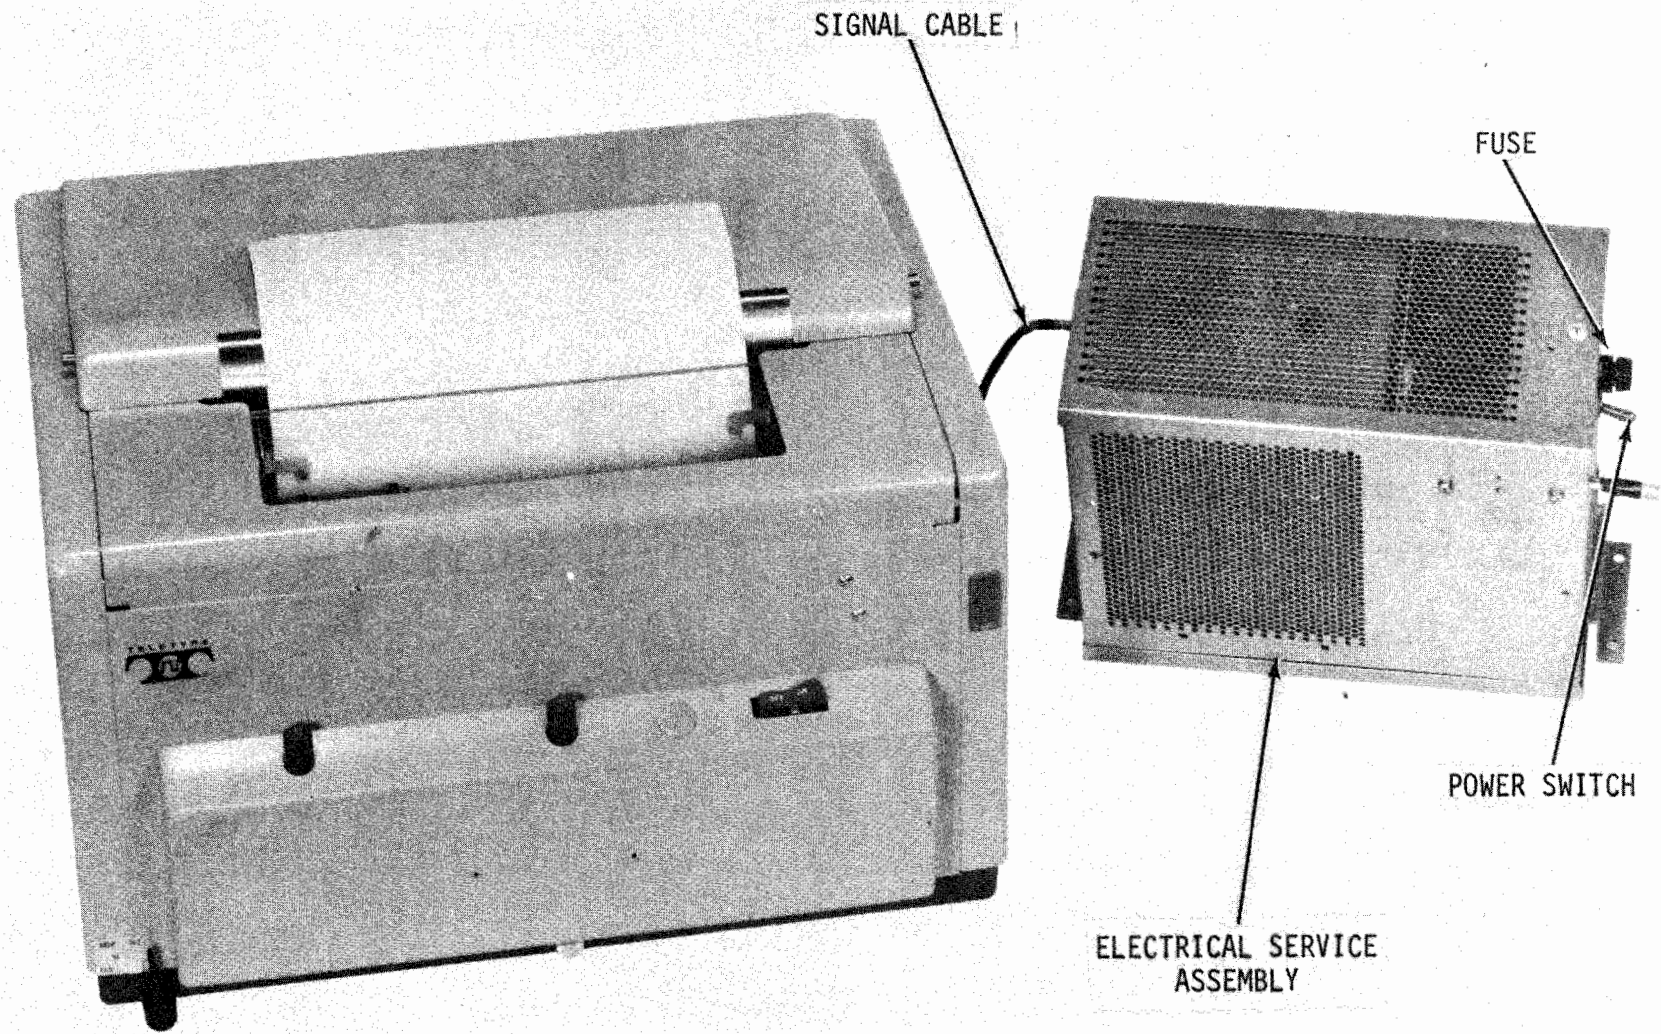

Figure 8-6. Typical ESA Installation
(1) Mount the electrical service assemblies (ESA) in space available anywhere near the set within the limit of the signal cables. Mounting brackets for the ESA are supplied; however, the user must supply the hardware to fasten these brackets to a table.
(2) Route the signal line conduit or cabling to the keyer selector magnet driver of the ESA. Route the signal line to the opposite side of the fuse and attach by means of a conduit fitting. The ESA container has two 7/8-inch diameter knockouts for 1/2-inch conduit fittings.
(3) Route the synchronous pulse control conduit or cable to the ESA opposite the side of the fuse and attach by means of conduit fittings.
(4) Route the power line conduit or cable to both ESA containers. Connect the power line to the side on which the fuse and power switch are located. Attach by means of a conduit fitting.
(5) Route the clutch magnet driver output cable and signal cables through the notch in the rear of the cover. Route the cables through the nylon clamp on the base and connect to the appropriate terminal block and connector.
b. Electrical Service Assembly (RO) Installation. A table-mounted ESA is also used with low-level CPP RO equipment. Figure 8-6 shows an ESA connected to a RO set. The ESA is connected to a KSR set in the